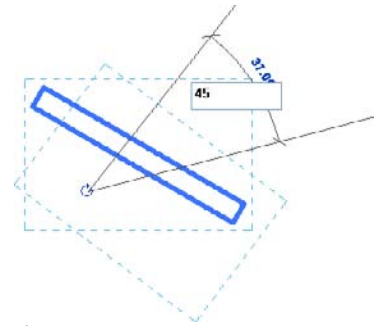

Figure 3.23
5. Move the mouse pointer to place the second ray of rotation, or specify an angular dimension (Figure 3.23).